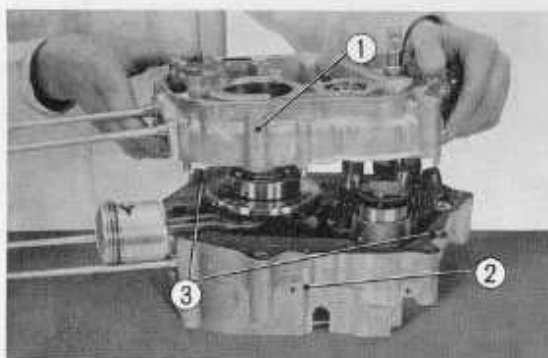

Fig. 3.85 Reassembling the crankcase
2. Assemble the right crankcase ① to the left crankcase, ② (Fig. 3.85)
- Caution:** Do not forget to install the two dowel pins, ③ (Fig. 3.85)